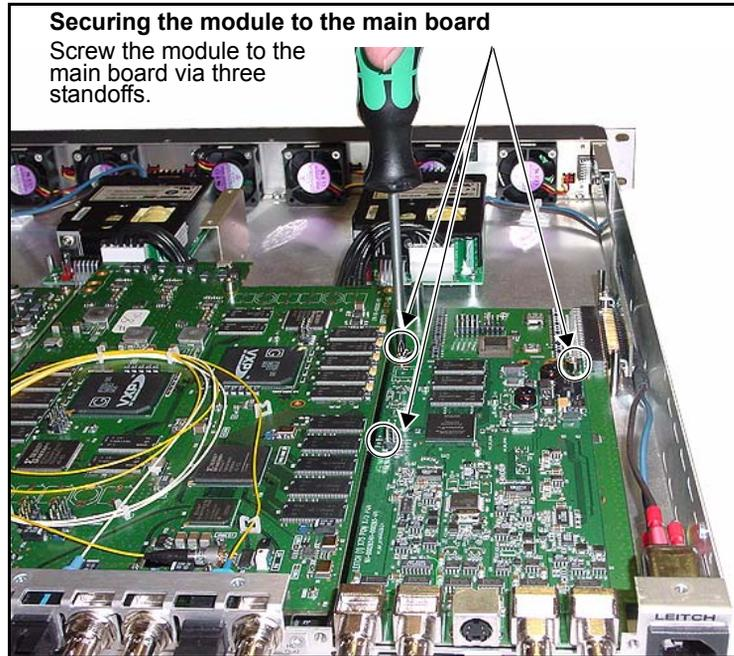

Figure C-28. Securing the Module to the Main Board
Figure C-28 on page 340 illustrates the location of the three module standoffs where you need to apply the screws.
3. Remove the three screws that secure the module to the main board. See Figure C-28 on page 340 to locate these screws.